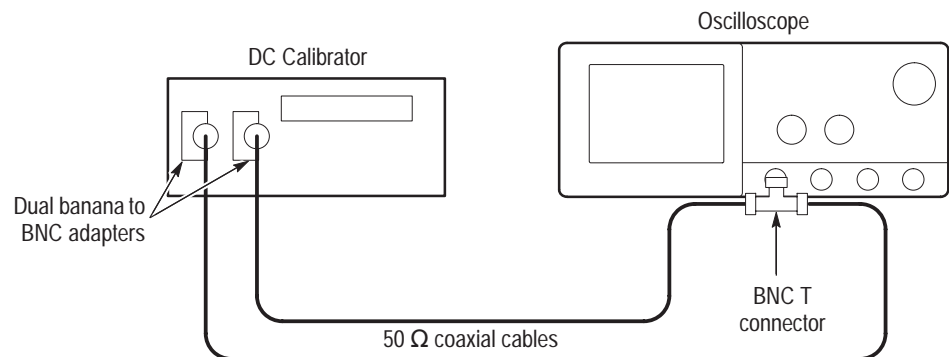

Figure 4–23: Subsequent test hookup
- Connect the output of a DC calibration generator through a dual-banana connector followed by a 50 Ω precision coaxial cable to one side of a BNC T connector. See Figure 4–23.
- Connect the Sense output of the generator through a second dual-banana connector followed by a 50 Ω precision coaxial cable to the other side of the BNC T connector. Now connect the BNC T connector to **CH 1**. See Figure 4–23.